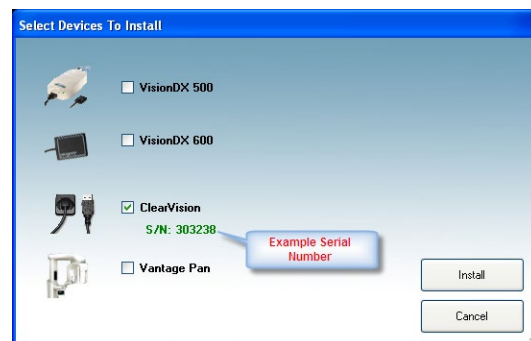

Figure 4: Selecting the device families to be installed
- The screen on Figure 4 will be displayed. Choose ClearVision and all other device families that have to be supported by the Imaging Software.